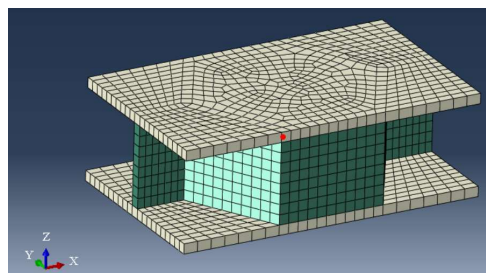

Fig.3 Micro-structure (M0)
- (9) Create the RVE micro-structure (RVE, after scaling) as shown in Fig.3 and ensure the RVE is centred at the origin (0, 0) and define the center point of RVE (M0 (red mark), geometric set or node set). Note that M0 is not necessarily on the RVE